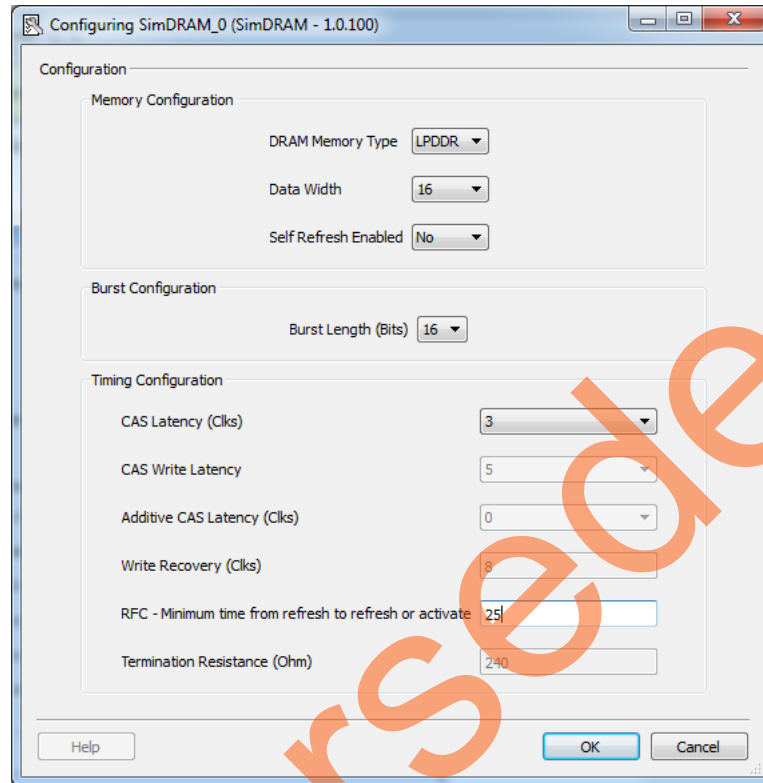

Figure 23 • Configuring SimDRAM
4. Enter the Generic DDR Memory Simulation model configuration details as shown in Figure 23. The example design uses one instance of SimDRAM (VIP model) with the device width size of sixteen.